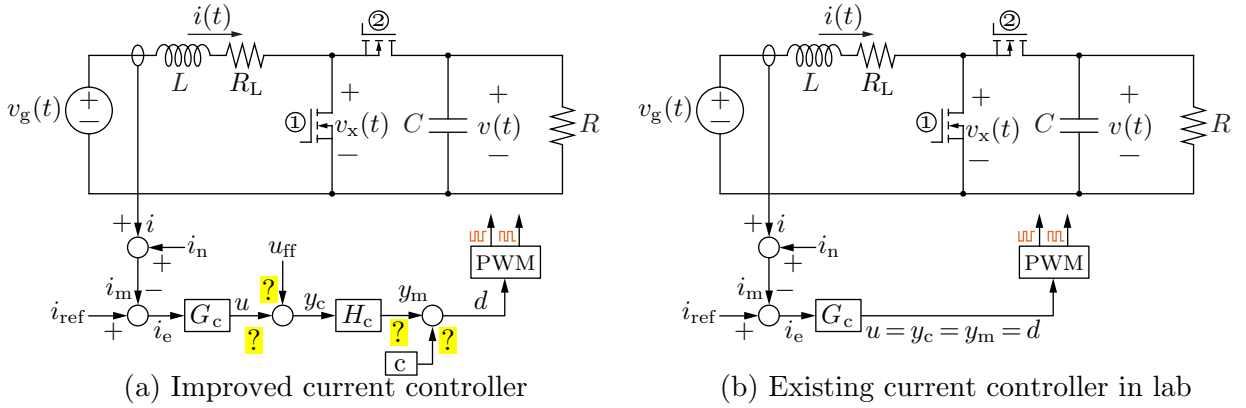
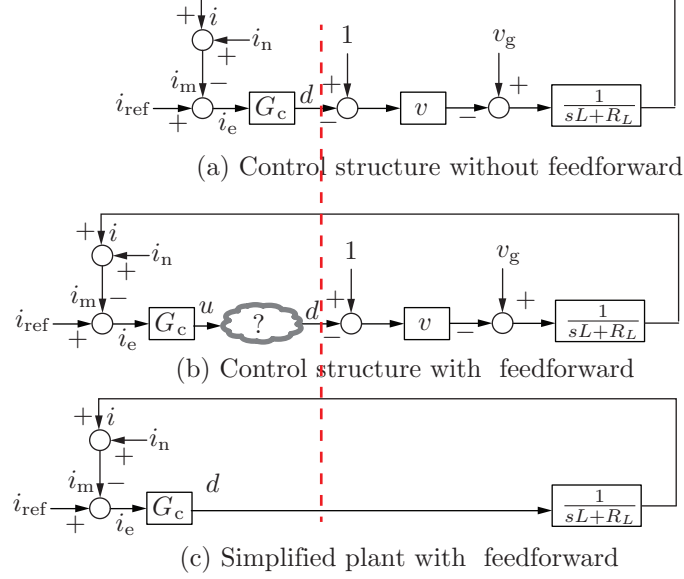

Figure 1: Boost converter with current control.
Figure 2: Control simplification with feed-forward. On the right side of the red-dashed line is your plant and on the left is your controller.
Problem 1: Consider a boost converter where the winding and MOSFET on resistances are lumped into R_L . The diagrams in Figs. 1(a) represents the version used in lab and 1(b) represent the improved control structure that implements feed-forward. Below, you will model the improved controller and then compare it to the lab implementation. Assume all sensing path gains are equal to 1 and that a PI controller is used.
- Assume the controller, G_c produces an output, d , verify that Fig. 2 (a) shows the correct implementation of your KVL derived in the preceding question.
- We want to implement feed-forward to simplify our plant transfer function to be only $1/(sL + R_L)$ so that the controller design becomes simplified as in Fig. 2 (c). To achieve this, sketch or provide a numerical relationship between the controller output, u , and the actual duty ratio, d , that goes into the PWM block. (Note under all circumstances, $0 < d < 1$). Compare the relationship you have derived with Fig. 1 (a) to identify H_c , c , u_{ff} and the signs of the sum blocks shown with ?.
- Create a switched simulation for improved implementation in Fig. 1 with and without feedforward where the following events below occur. Use your control gains from 2(a). Overlay the $i(t)$ waveforms for with and without feedforward (for without feedforward, use the controller you developed in lab) on the same plot to facilitate comparison. Comment on how they differ.